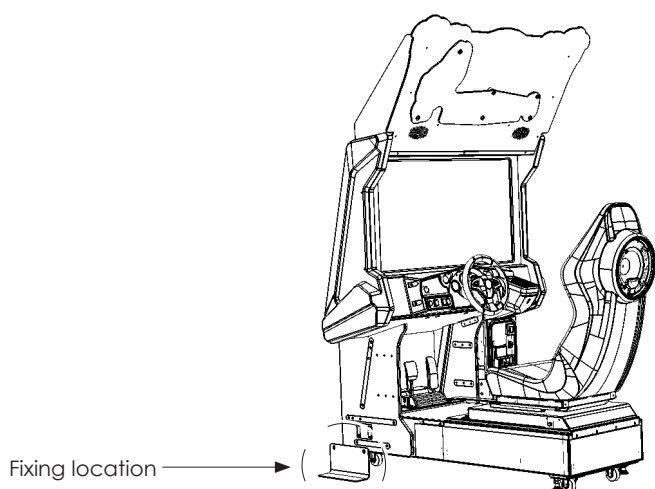

Fig. 6.2.1a
- 1** Place one of the two STABILIZER plates near the fixing location. Remove the M8x30 Bolts (2) from the lower section of the cabinet as shown in Fig 6.2.1a.